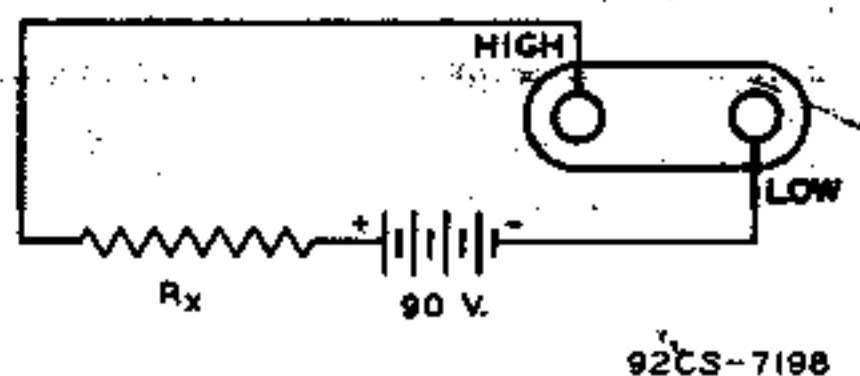

Figure 2. Connection for use as an ohmmeter
1. Connect a 90-volt battery (two VS055) in series with the resistance under test, as shown in Figure 2.
1. Connect a 90-volt battery (two VSO55) in series with the resistance under test, as shown in Figure 2.